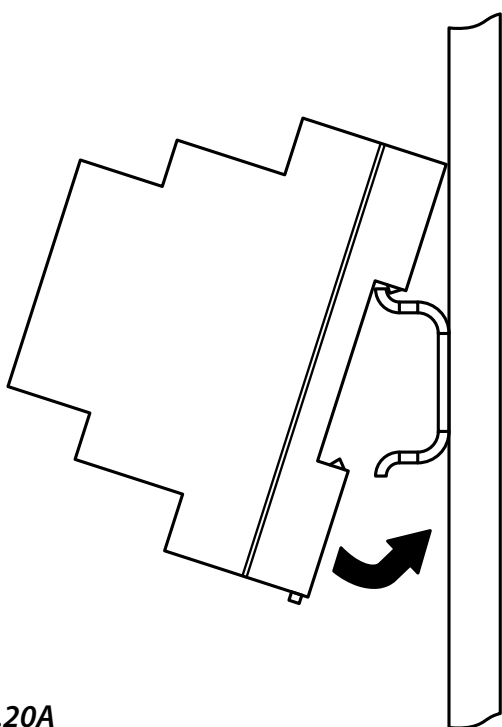

Fig.20A
- Fix the power supply to a DIN rail (following Fig.20A, Fig.20B and Fig.20C).